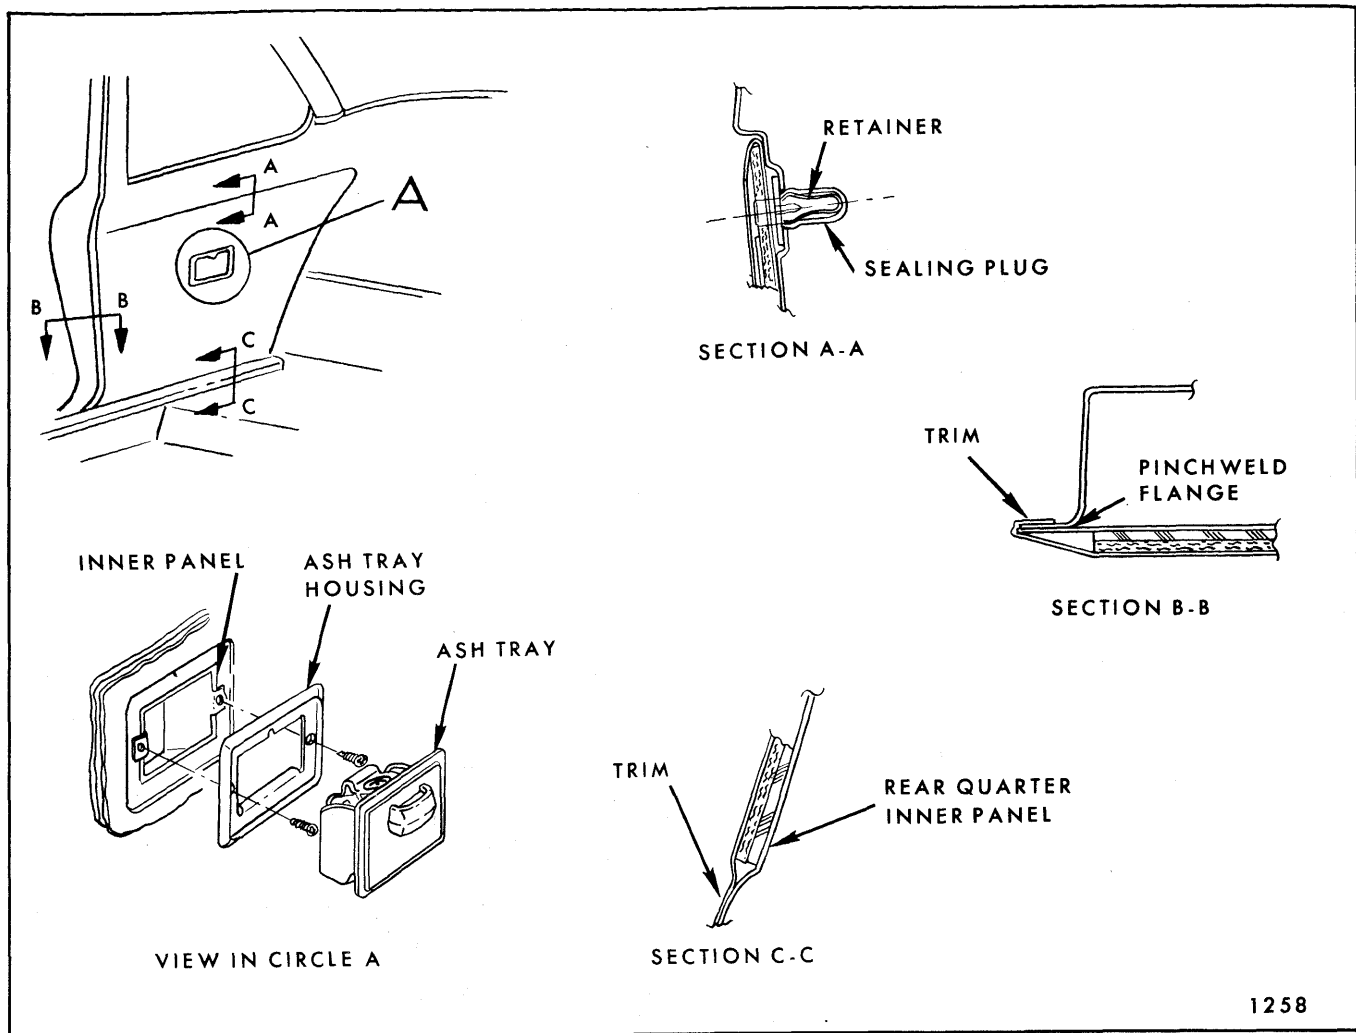

Fig. 8-6—Rear Quarter Trim Assembly - "Z" Body Styles
2. Remove ash tray and two screws securing ash tray housing to rear quarter inner panel (Fig. 8-6, View in Circle "A").
4. With a flat bladed tool, disengage trim pad retaining clips from plastic sealing plugs in rear quarter inner panel (Fig. 8-6, Section "A-A").
5. With a flat bladed tool, break cement bond at lower section of trim assembly to rear quarter inner panel (Fig. 8-6, Section "C-C").
6. Carefully pivot trim assembly forward to break cement bond at pinchweld flange of rear body lock pillar and remove assembly from body (Fig. 8-6, Section "B-B").